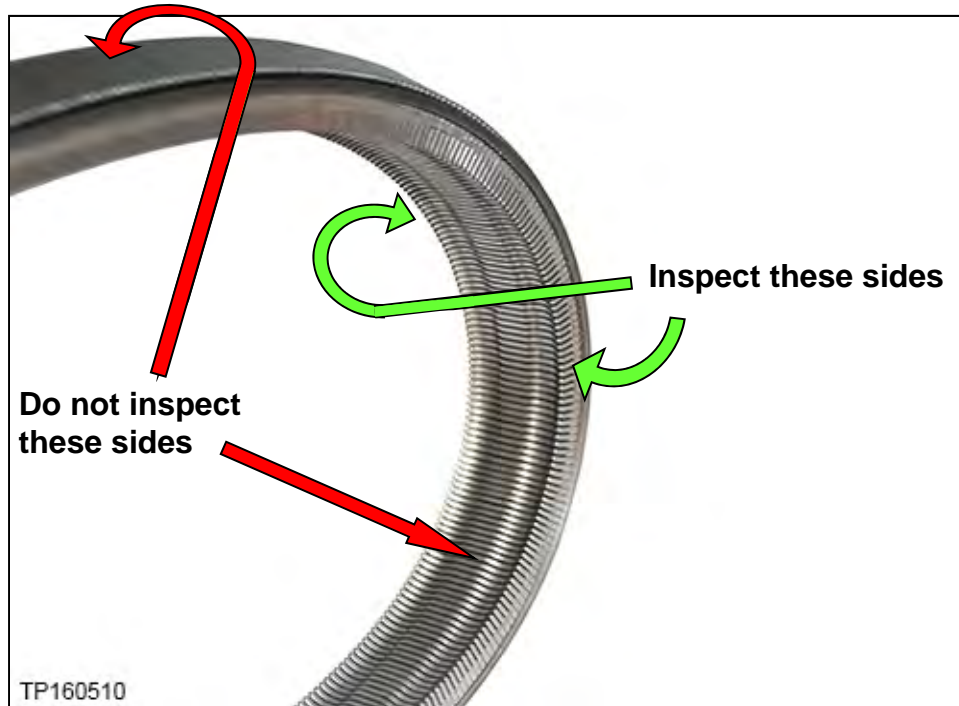

Figure 8
6. Using borescope J-51951 with its mirror attachment, inspect the entirety of the two sides of the belt that come in contact with the pulleys (see page 7, Figure 8).